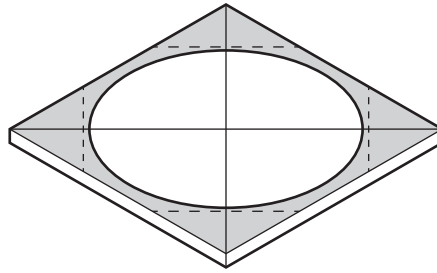

Fig. 11.4
- (d) Fig. 11.4 shows the table top marked out on a sheet of plywood. The table top will be made on a woodturning lathe.